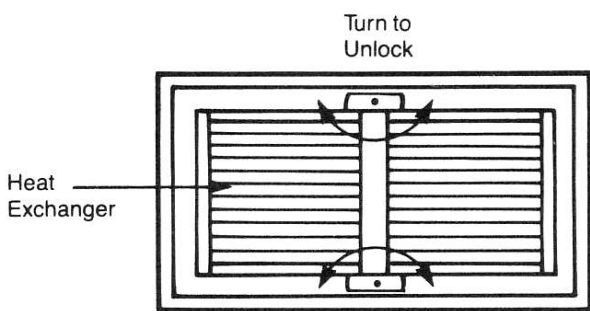

Fig. 6
8. After turning the heat exchanger retaining knobs to the unlocked position, withdraw the heat exchanger (see Fig. 6).
Pass the supply cable through the largest cable gland in the side of the terminal box. For the HR500X the cable from the shuttered grille passes through the remaining free cable gland. Cut the cables to the minimum length required and make the internal wiring connections within the terminal box (see Fig. 6). Connect the supply cable from the Vent-Axia Controller to the appropriate terminals of the terminal block within the terminal box as shown in Fig. 9. If a Vent-Axia Controller is not used, connect the supply cable as shown in Fig. 10. Ensure all cable glands are tightened sufficiently to seal onto the cables.